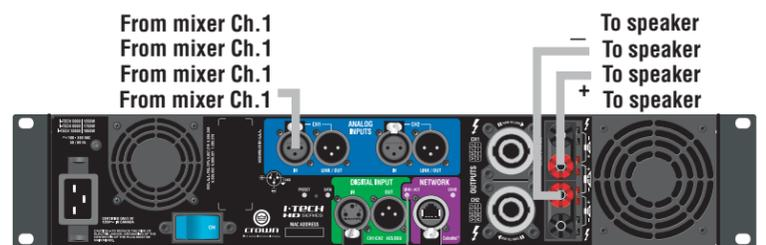
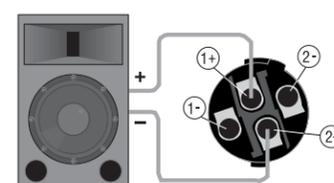

Figure 4 Rear Panel Connections for Bridge-Mono Wiring
Figure 5 Wiring a Speaker to the Top Speakon Connector for Bridge-Mono Operation
6. See Figure 4. Connect a cable from your mixer output to the amplifier's Channel-1 XLR input connector.
7. Using Class 2 wiring, connect the speaker cable either to the amplifier's top Speakon connector (terminals 1+ and 2+, Figure 5) or across the red binding posts of both channels (Figure 4). Do not use the black binding posts in bridge-mono mode.